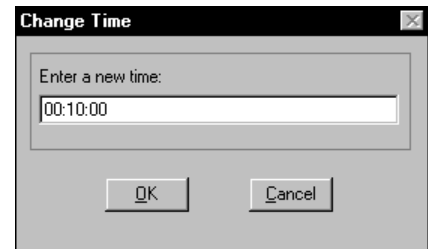

Figure 13.
2. Insert 2 min. (00:02:00) in the Change Time dialog box (Figure 13) then close the box by clicking OK. The total time frame you are looking at from the left to right edges of the chart is about 2 minutes.